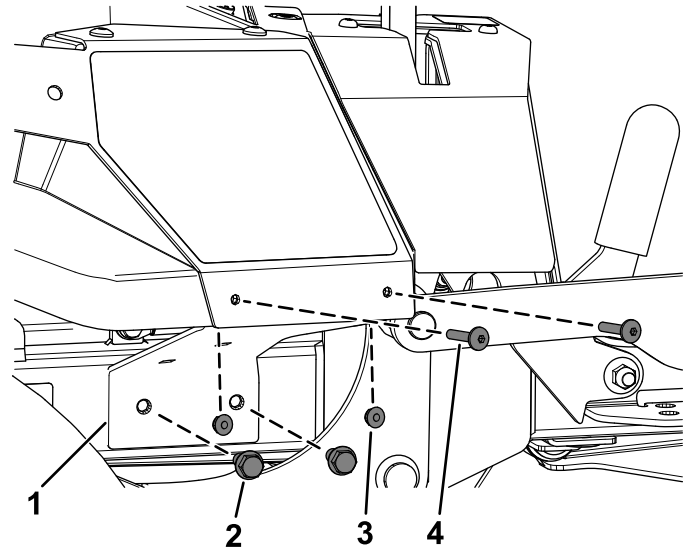

Figure 6
B. Secure the right pod support bracket using the 2 new thread-forming screws (3/8 x 1 inch) and the previously removed 2 torx-head screws (1/4 x 1-5/16 inches) and 2 locknuts (1/4 inch) as shown in Figure 6.